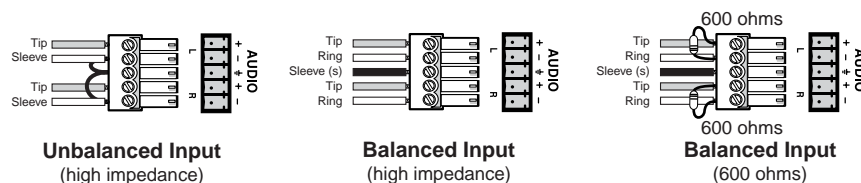
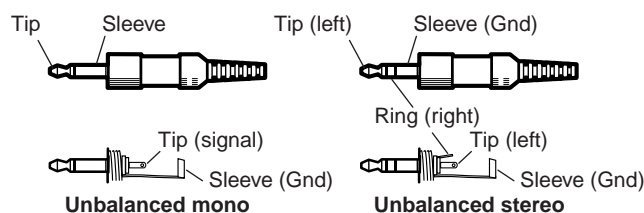

Figure 2-5 — Captive screw connector wiring for inputs
Figure 2-6 — Phono audio connectors
- ④ **Connections for balanced and unbalanced audio inputs** — Each input has a 3.5 mm, 5-pole captive screw connector for balanced or unbalanced stereo audio input. Connectors are included with each Matrix 50 Series switcher, but you must supply the audio cable. See figure 2-5 to wire a connector for the appropriate input type and impedance level. High impedance is generally over 800 ohms.
NOTE When making connections for the Matrix 50 Series Switcher from existing audio cables, see figure 2-6. A mono audio connector consists of the tip and sleeve. A stereo audio connector consists of the tip, ring and sleeve. The ring, tip, and sleeve wires are also shown on the captive screw audio connector diagrams, figure 2-5 and figure 2-7.